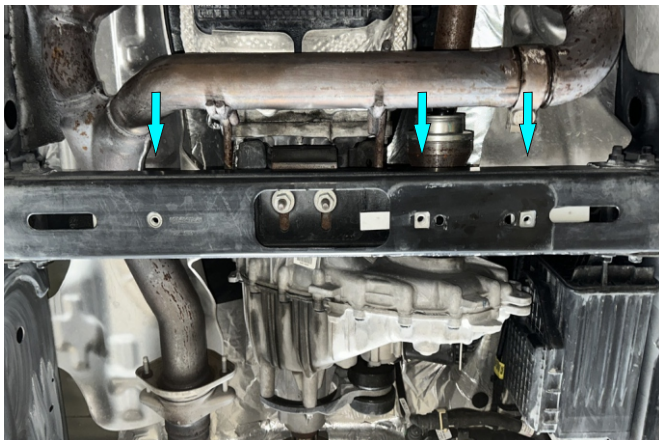

Fig. 3
3. Remove factory clip nuts and install M10 insert nuts (item A) as shown in fig.3.